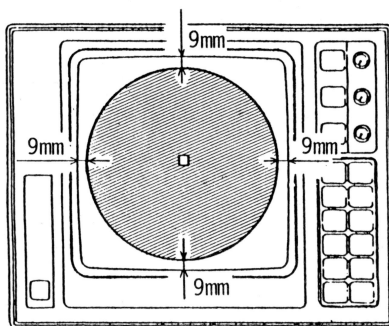

Fig.2-8
- 3) Attach the paper to the screen with stick tape. (See Fig.2-8)